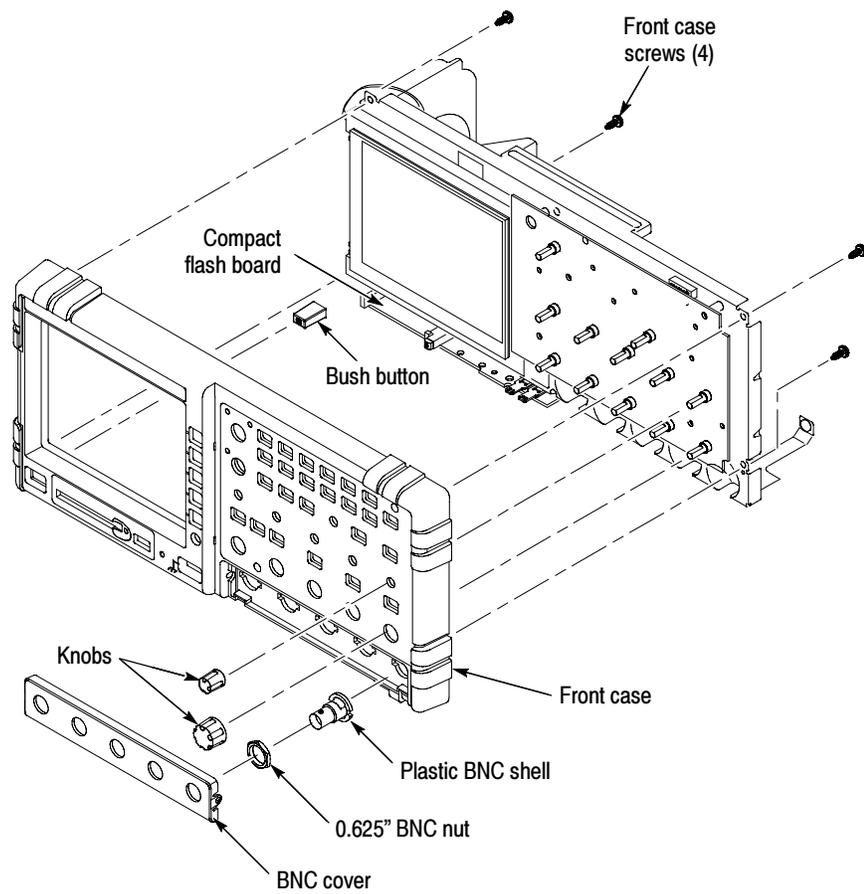

**Figure 6-3: Removing the BNC cover, shell, and retaining nuts**
5. Remove the plastic BNC shells from the BNC connectors. Grasp the BNC shell with your fingers and pull up to remove the shell. See figure 6-3.